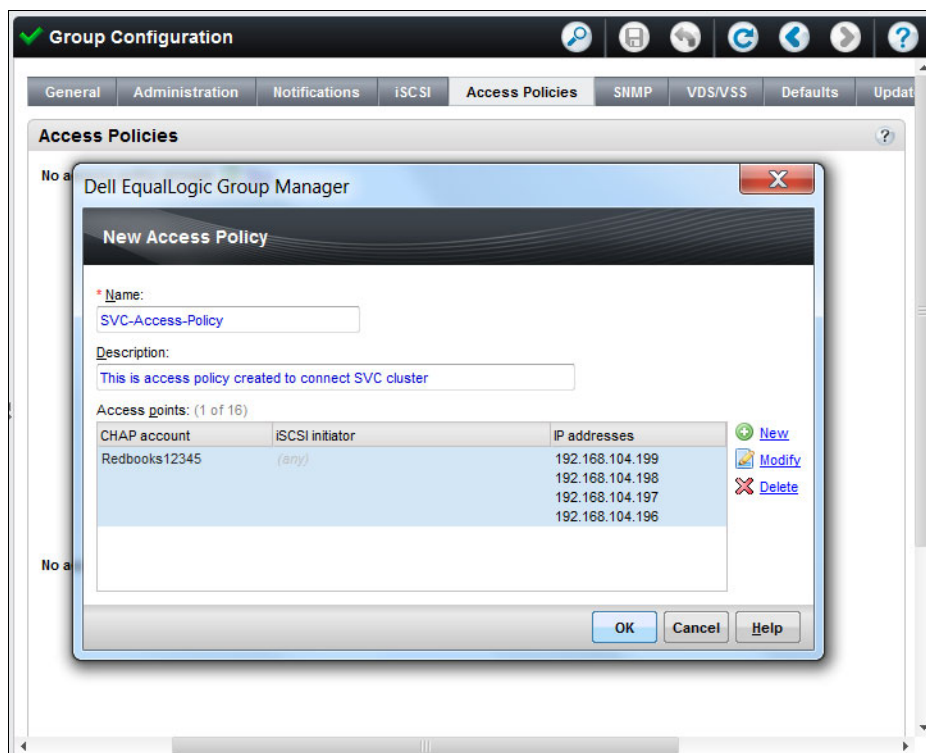

Figure 14-11 Window to review the new access policy details
- Click **OK**. You see the list of IP addresses that are added in the extended access point, as shown in Figure 14-11.